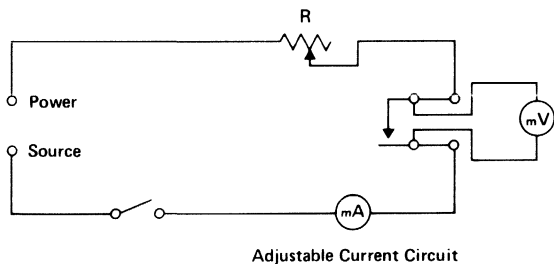

Fig. 10 — Measuring contact resistance.
The measurement for normally-open contacts is made with nominal-coil-drive power applied. The latching and normally-closed-contact resistance is measured with no power applied to the coil at the time of measurement. This test technique is intended to measure the quiescent condition of the contacts, 50 milliseconds minimum after contact closure. The contacts must be in a static state to exclude magnetostrictive and noise characteristics inherent in reed contact. Measurements shall be made using the voltmeter-ammeter technique. Kelvin, or four-wire connections shall be used. See Fig. 10.
- 4.2.1 Connect test leads per Figure 10 with the current probes approximately 0.050 inch (1.25 mm) from the standoff base of the relay.